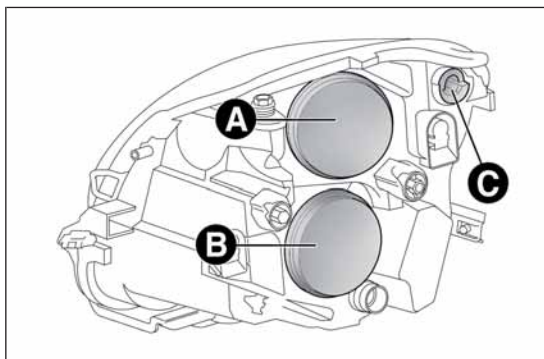

fig. 132
- ☐ release connector A fig. 132 and disconnect tube B;
These contain the bulbs for the side lights/daytime running lights (DRL), dipped beams, main beams and direction indicators. The bulbs are arranged as follows fig. 132:
- ☐ remove cover A fig. 132;
- ☐ refit cover A fig. 132.
- ☐ remove cover B fig. 132;
- ☐ refit cover B fig. 132.